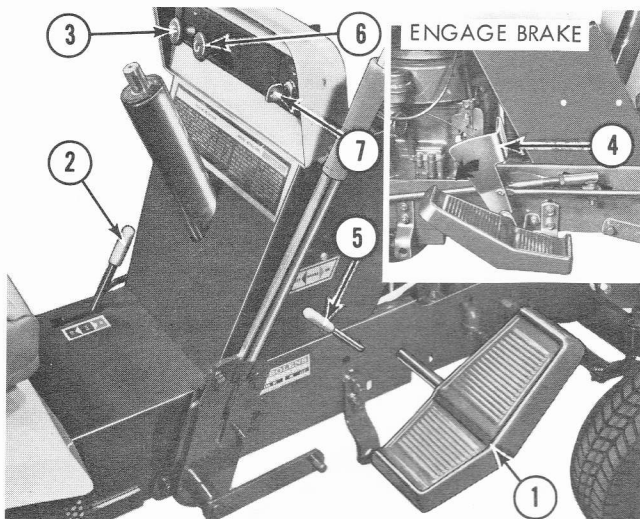

Figure 3. Controls
6. Choke. When starting engine, pull choke knob out to close the choke, pushing knob gradually in as engine warms up. A warm engine requires less choke when starting. (See Figure 3.)